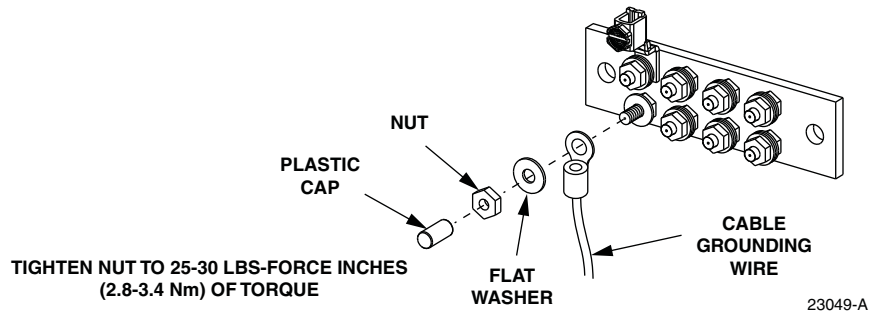

Figure 15. Connecting Grounding Cable to Grounding Block
3. Remove the protective plastic cap, nut, and flat washer from one of the grounding studs on the grounding block as shown in Figure 15.